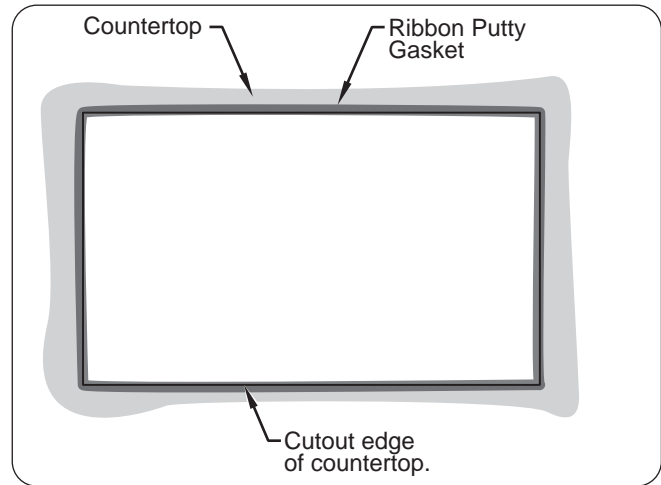

Figure 4. Installing Ribbon Putty Gasket
3. Place ribbon putty gasket around the cutout edge of the countertop. Make sure the ribbon putty gasket overhangs the cutout edge or seal unit with silicone adhesive (see Figure 4).